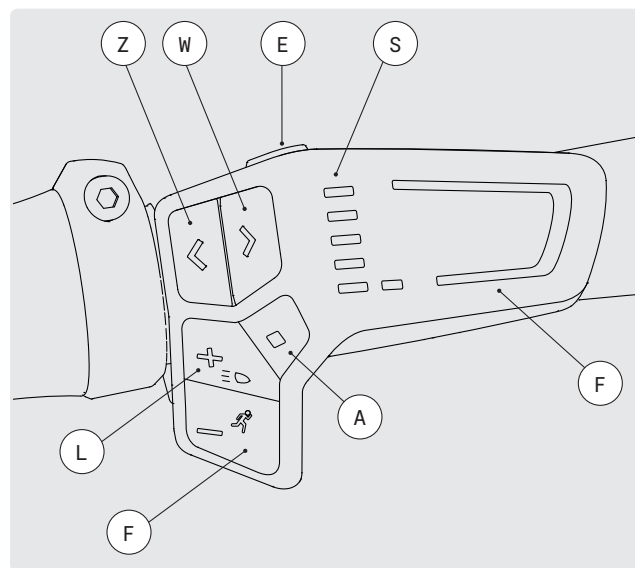

FIG. 19
In addition to buttons on the battery, the Motor eu also has an On/Off button on the control element on the left-side of the handlebar. The head is located on the top of the element. see Fig. 19.
**Switch power On/Off** → On/Off button E (Fig. 19).
**Read the charge status** → Charge status display S (Fig. 19).
**Driving mode display** → You can read the currently selected driving mode on the LED Display F (Fig. 19).
**Selection button** → Using the selection button A you can select or confirm menu items on the Display (Fig. 19).
**Select driving mode / Pushing mode** → Briefly press the F button (Fig. 19)
→ Press and hold the F key (Fig. 19)
**Select driving mode / Switch light On/Off** → Briefly press the L button (Fig. 19)
→ Press and hold the L key (Fig. 19)
**Reduce brightness / Scroll back** → Briefly press the Z button (Fig. 19)
→ Press and hold the Z key (Fig. 19)
**Increase brightness / Scroll further** → Briefly press the W button (Fig. 19)
→ Press and hold the W key (Fig. 19)